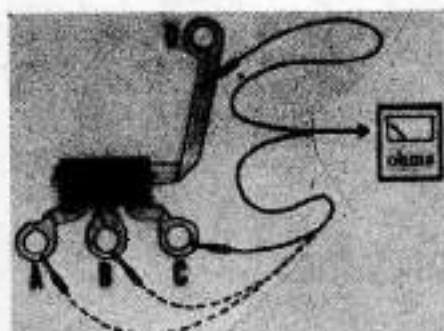

Fig. 108—Connect ohmmeter as shown to test diode trio as outlined in paragraph 202.
**202. DIODE TESTS.** To test diode trio (Fig. 108) connect a battery operated ohmmeter lead to diode trio at "D", Fig. 108 and remaining lead to "A", "B" and "C", Fig. 108, in succession, noting ohmmeter reading at each connection. Reverse ohmmeter connection